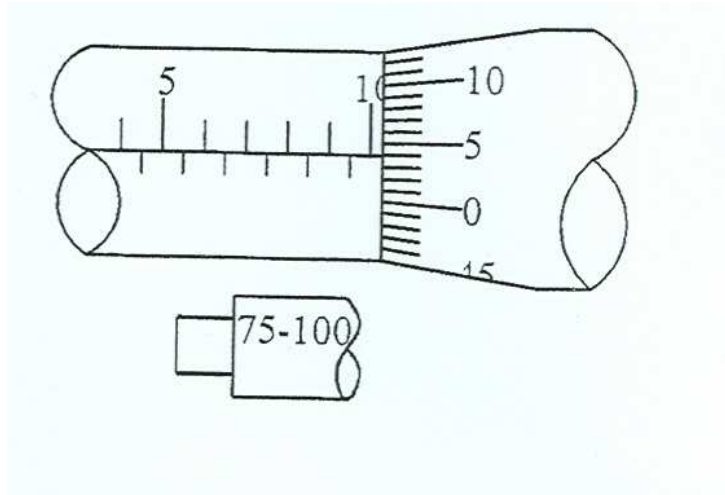

FIGURE 3.2
- 3.3 What is the measurement for the inside micrometer reading shown in FIGURE 3.2 when a 75 mm - 100 mm extension shaft is used?